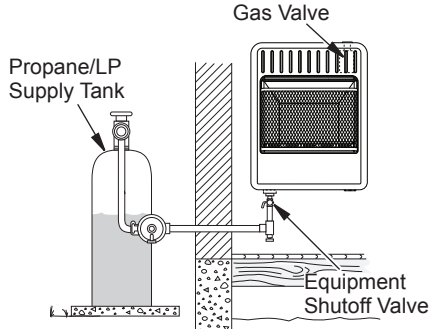

Figure 19 - Checking Gas Joints for Propane/LP Gas
3. Check all joints from gas supply (see Figure 19 or 20) to equipment shutoff valve. Apply a noncorrosive leak detection fluid to all joints. Bubbles forming show a leak.
4. Check all joints from equipment shutoff valve to control valve (see Figure 19 or 20). Apply a noncorrosive leak detection fluid to all joints. Bubbles forming show a leak.